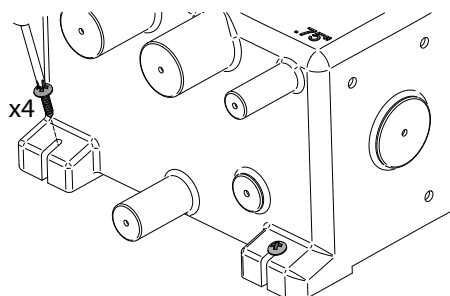
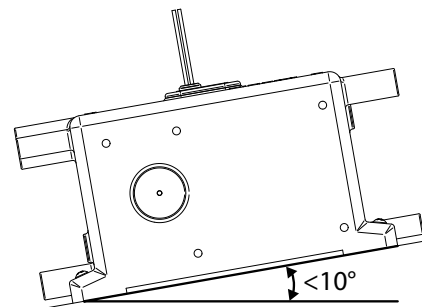

Figure 5 Securing The Tank
Figure 6 Maximum Possible Angle of Installation
Step 2: The tank **must be** secured using 4 appropriate screws, through the feet of the tank as shown in Figure 5. **NOTE:** The angle of the tank **must not** exceed 10° (Figure 6). **NOTE: Do not screw directly to the hull – MUST be mounted on a bulkhead or an additional board.**